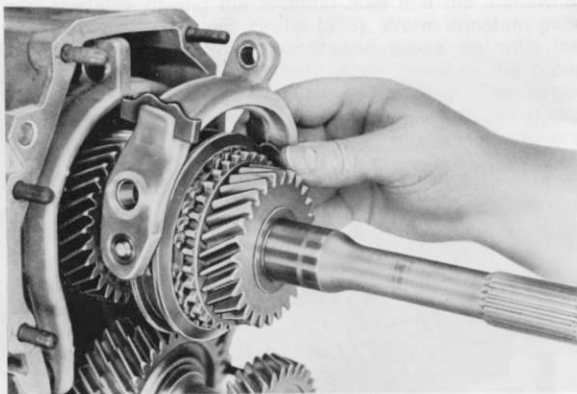

Fig. 47
2. Place the 4th and 5th gear selector fork onto the sliding sleeve as shown in Fig. 47.